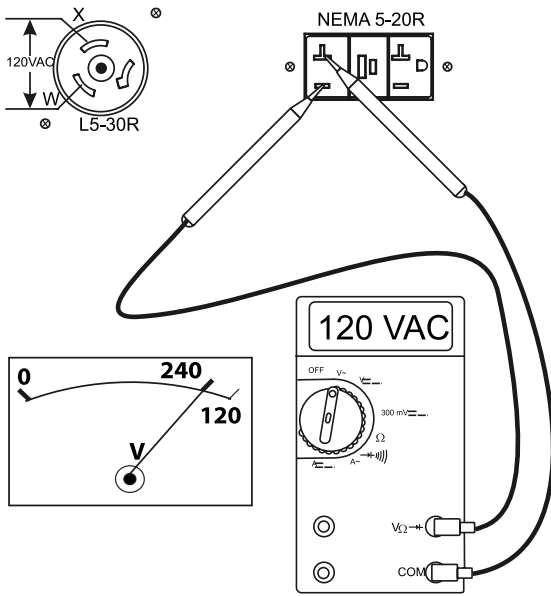

Figure 30. 120V GFCI/L5-30R Receptacles
3. Read the voltmeter on front panel of generator (Figure 30) and verify that 120 VAC is displayed. Using an external voltmeter as shown in Figure 30, verify that 120 VAC is present at the 120V twist-lock and duplex receptacles.